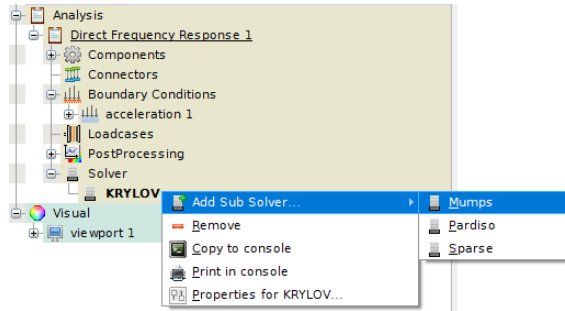

Figure 6.29: Select MUMPS as the sub-solver
- Right-click on the created Krylov solver and add a MUMPS sub-solver (Figure 6.29);